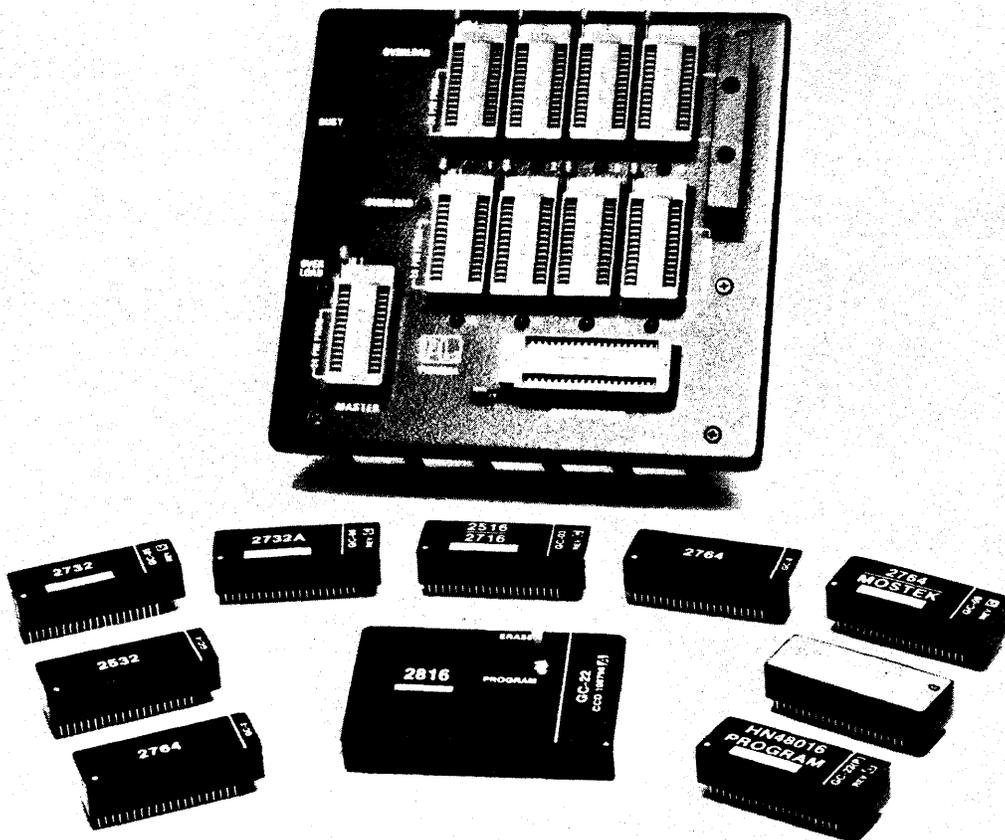

Figure 3-8. Generic Gang Module and Gang Configurators
Generic gang modules (see Figure 3-8) are capable of simultaneously programming multiple PROMS from a generic family. Programming algorithms and PROM pinouts are reconfigured by inserting the appropriate 40-pin gang configurator (GC). These modules are available in a 24- and a 24/28-pin version.